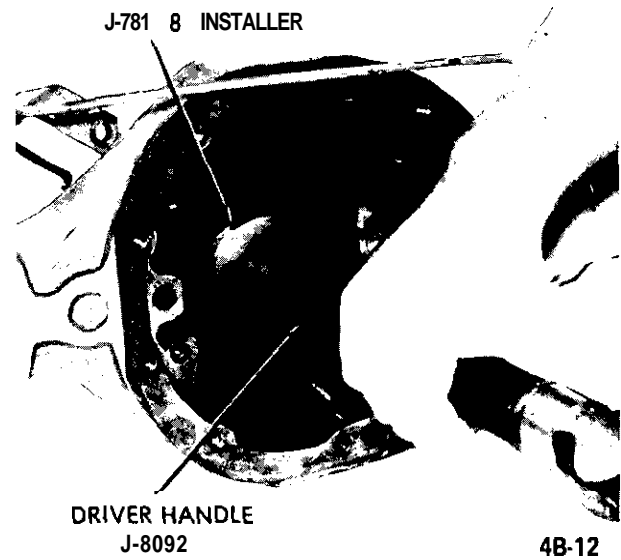

Figure 4B-18 Installing Rear Pinion Bearing Outer Race
6. Install pinion depth shims selected in Step (f) in the rear pinion bearing outer race bore and install the rear pinion bearing outer race using installer J-78 18 and driver handle J-8092. See Figure 4B-18.
I. Install rear pinion bearing onto the pinion using installer J-21022. See Figure 4B-19.